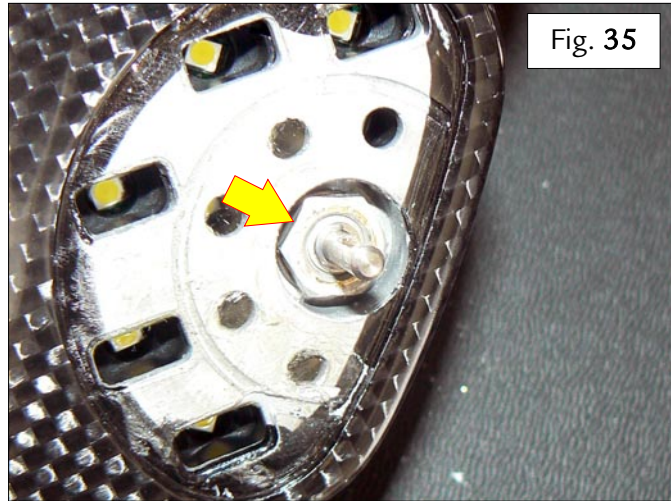

Fig. 35
- Using a suitable 3/8" socket, tighten the indicated ring nut fastening the Manettino rotary selector to a torque of 1.48 Nm – Fig. 35.
- Thoroughly clean the application surface for the new screen printed Manettino dial face – Fig. 35.